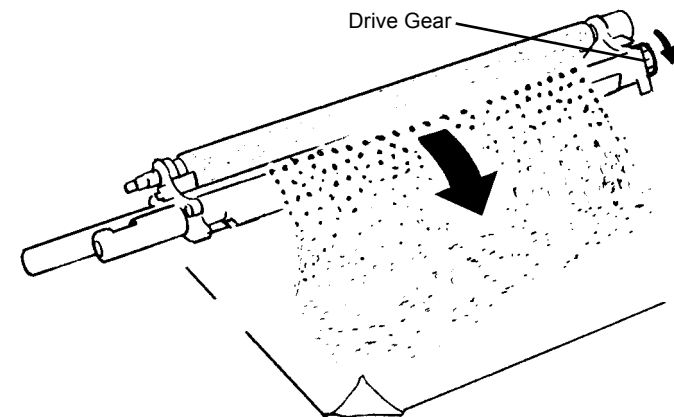

Figure 3 Removing Developer
- c. Rotate Drive Gear to remove Developer (Figure 3).